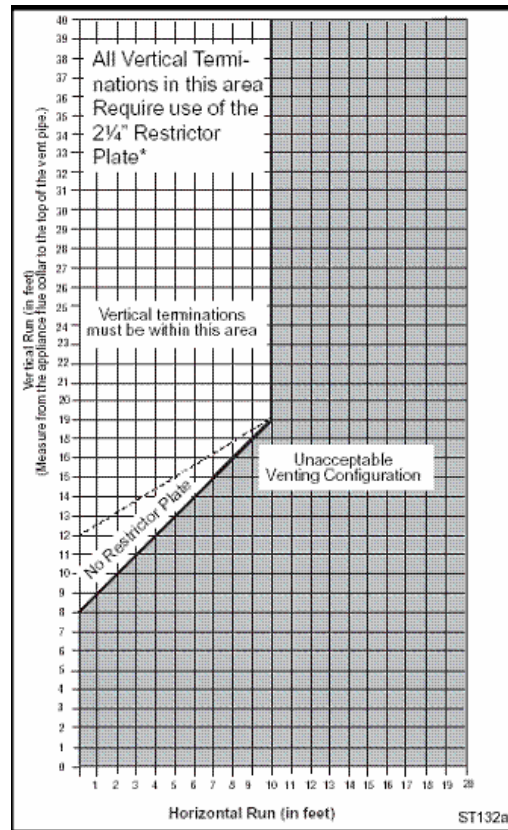

Fig. 8 Vertical vent termination window.
3. TERMINATION HEIGHT MUST CONFORM TO ROOF CLEARANCE AS SPECIFIED IN FIGURE 8.
**Important: All vent clearances must be maintained. Check your vent termination clearances against Figures 8 through 11.**